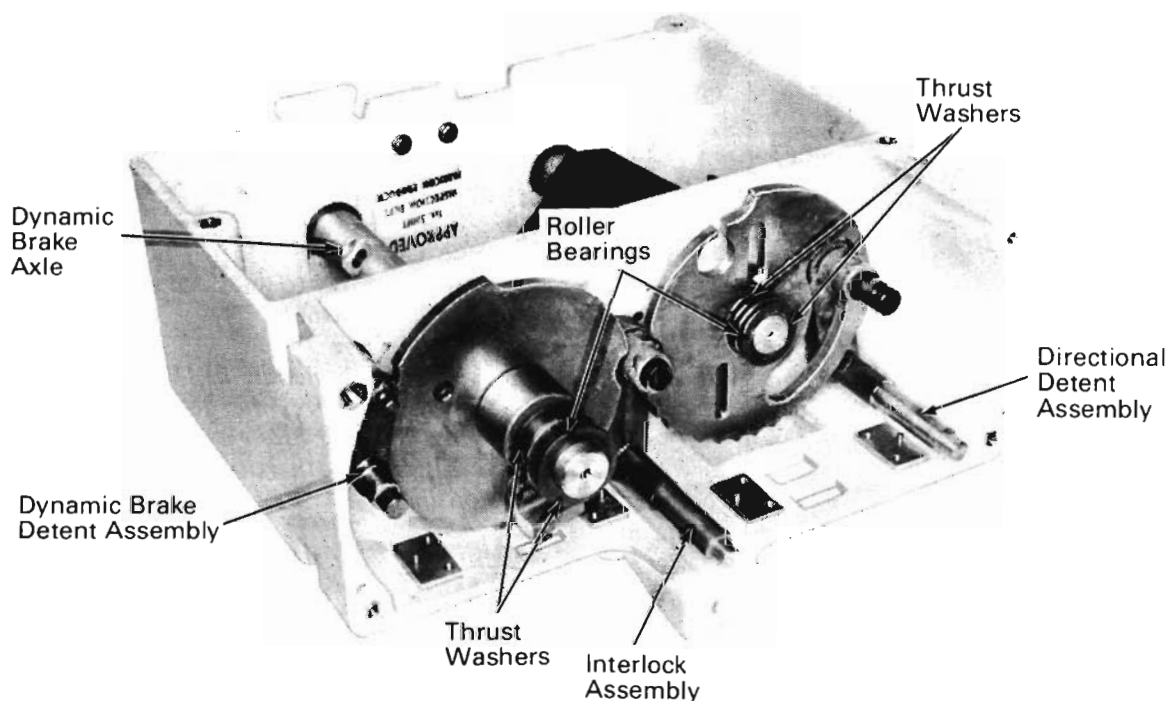

Fig.19 - Detent And Interlock Assembly
8. *Insert interlock roller assembly short shaft end into housing shelf bushing, from bottom side of shelf, Fig. 19.*